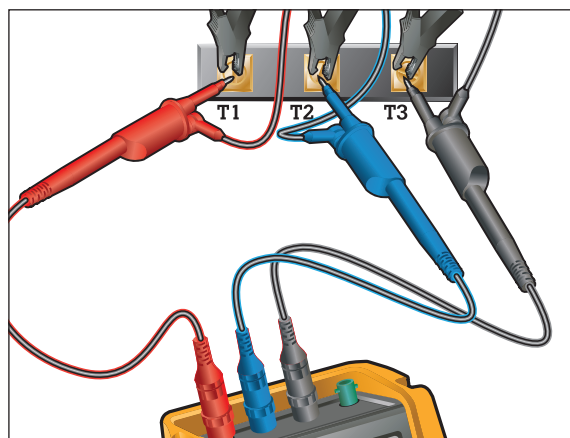

Figure 4. Use an oscilloscope with appropriately safety rated electrically isolated inputs to perform differential measurement on the three-phase output.
- Use an oscilloscope with a V PWM function connected between the three motor terminals (see **Figure 4**).